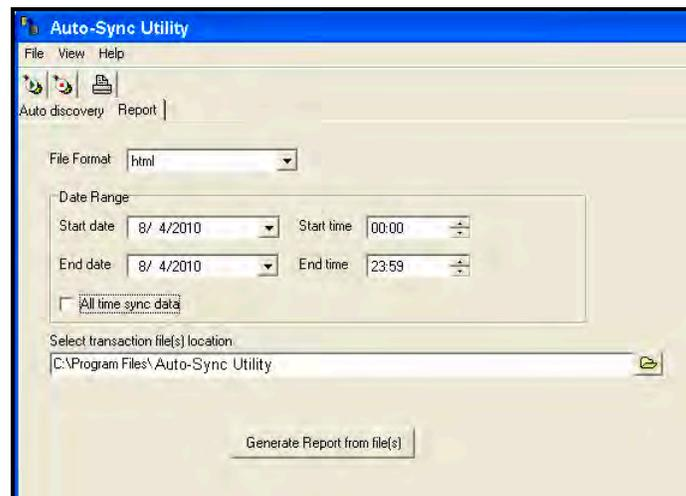

Figure 5-8. Auto-Sync Utility Report Tab.
5. Click on the Browse button to use the Windows Select Directory dialog (see *Figure 5-8*) to navigate to the folder where the "*MAC address_ATVSTrans.txt*" backup files are to use for the report.